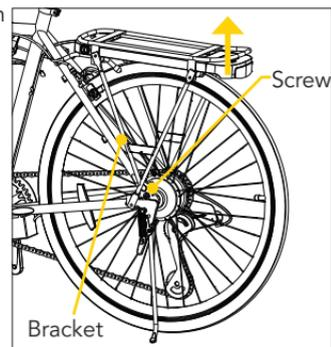

Fig. 5
Step 1. Use the included allen key to release the screw on the one side of rear wheel (Fig. 5).